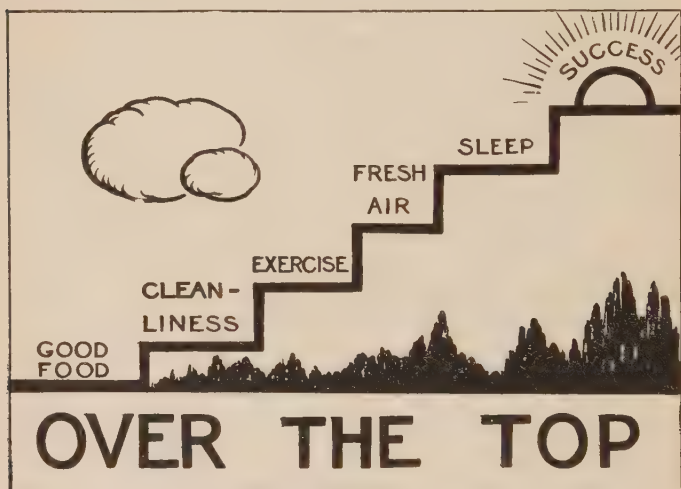

FIGURE 320. — STEPS TO SUCCESS.
6. *Sleep.* After exercise comes fatigue. This should never approach exhaustion. Such a condition is dangerous and destroys the value of all exercise. To eliminate fatigue poisons requires rest. Every boy and girl should sleep at least eight hours every night (Fig. 320).